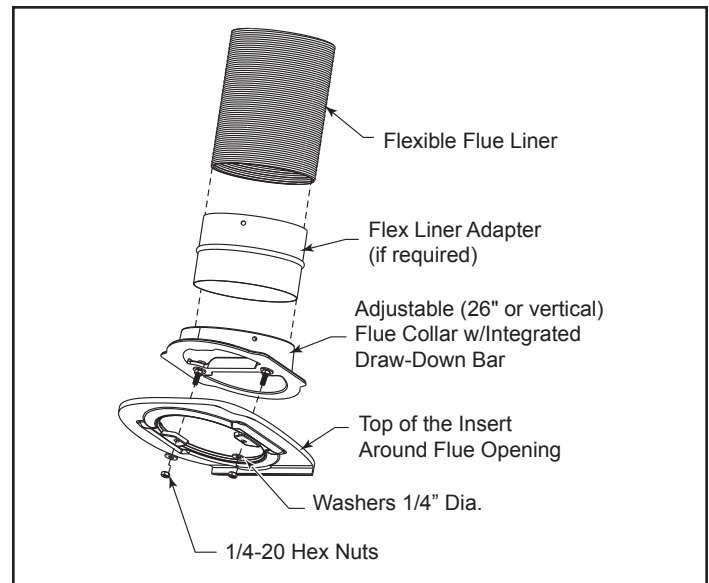

Figure 6 - Components of the venting system.
3. Install the venting system: Again, depending on your application it may be easiest to install the connector or stainless steel flue liner in the chimney first. Refer to Figure 6 for the components of the venting system.